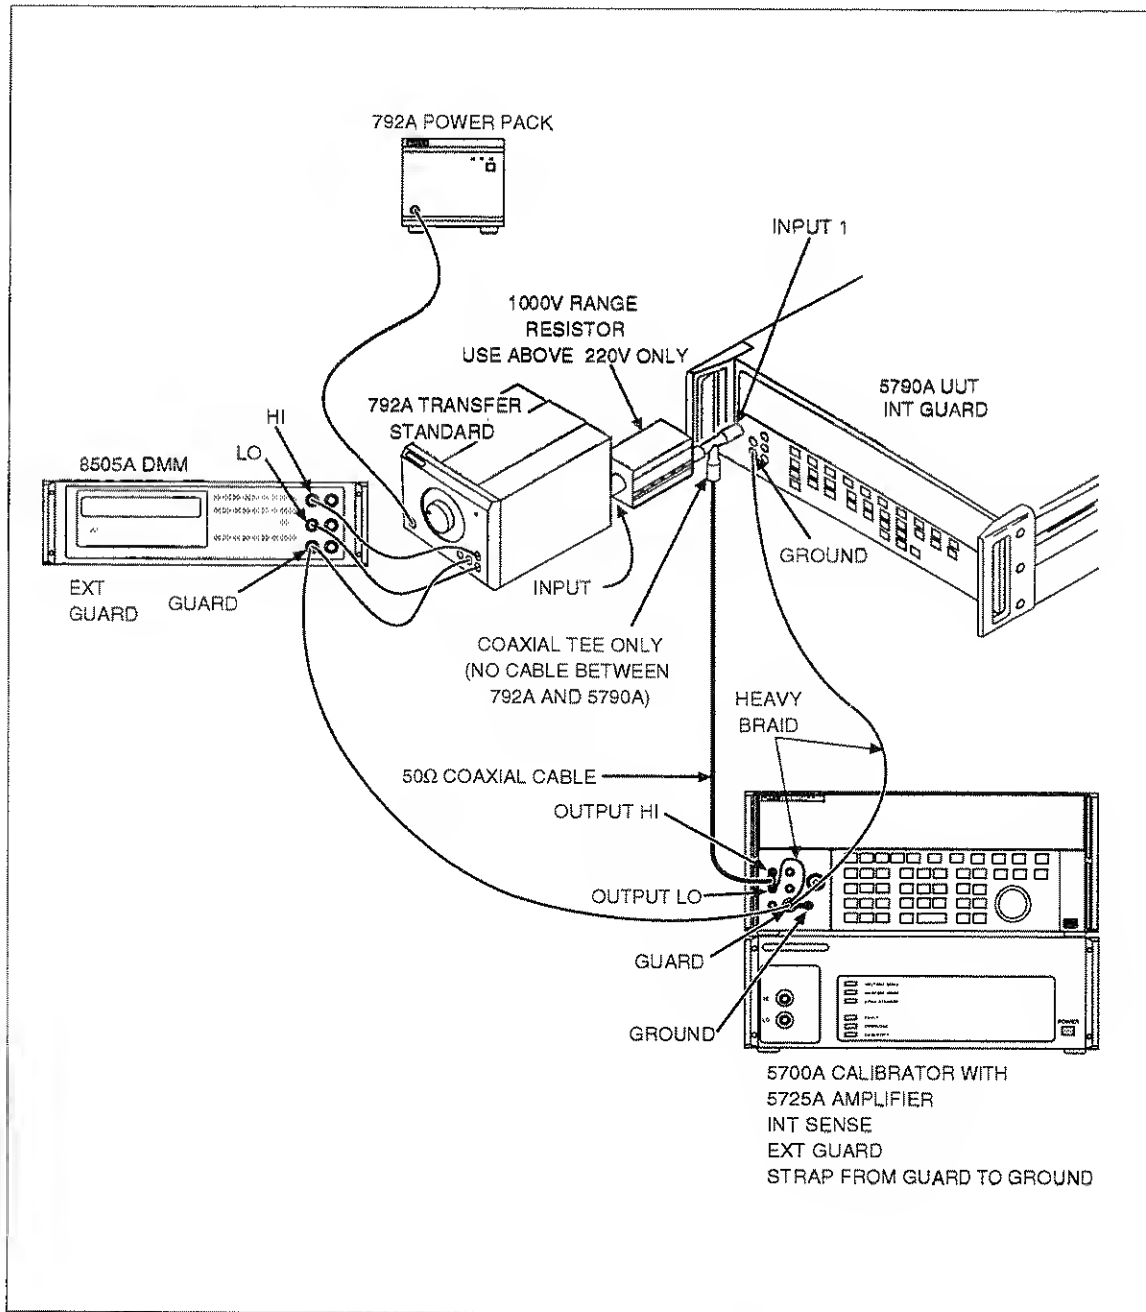

Figure 3-8. 5790A AC Calibration Test Setup
1. Set up the equipment as shown in Figure 3-8. Connect the 792A without the 1000V range resistor first.
- If the test voltage is above 220V, add the 792A 1000V range resistor to the test setup as shown in Figure 3-8.